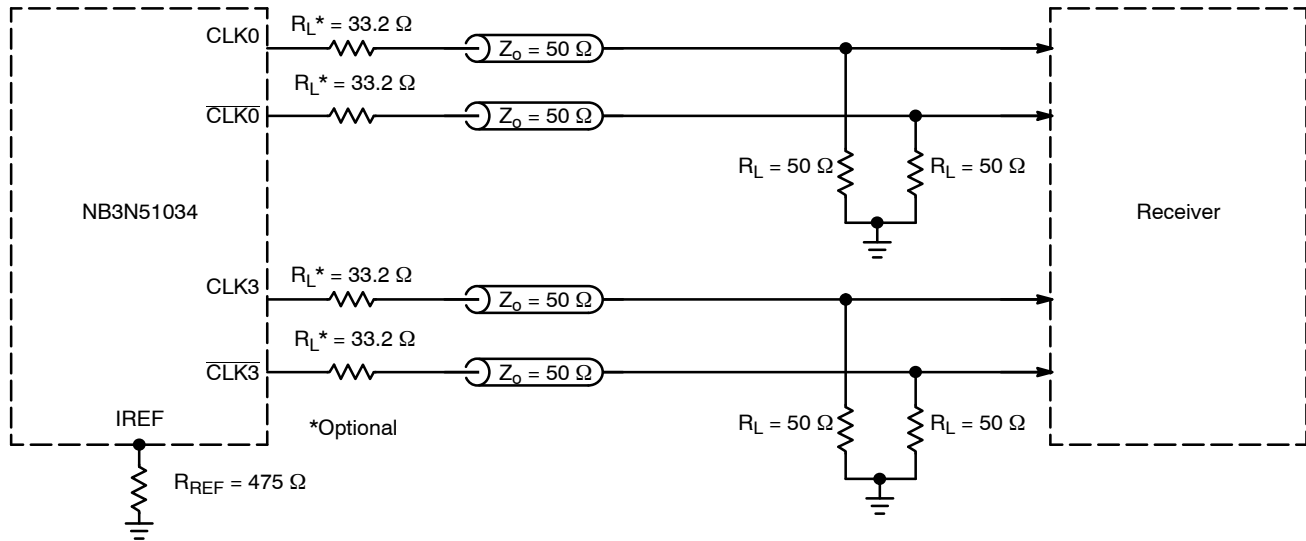
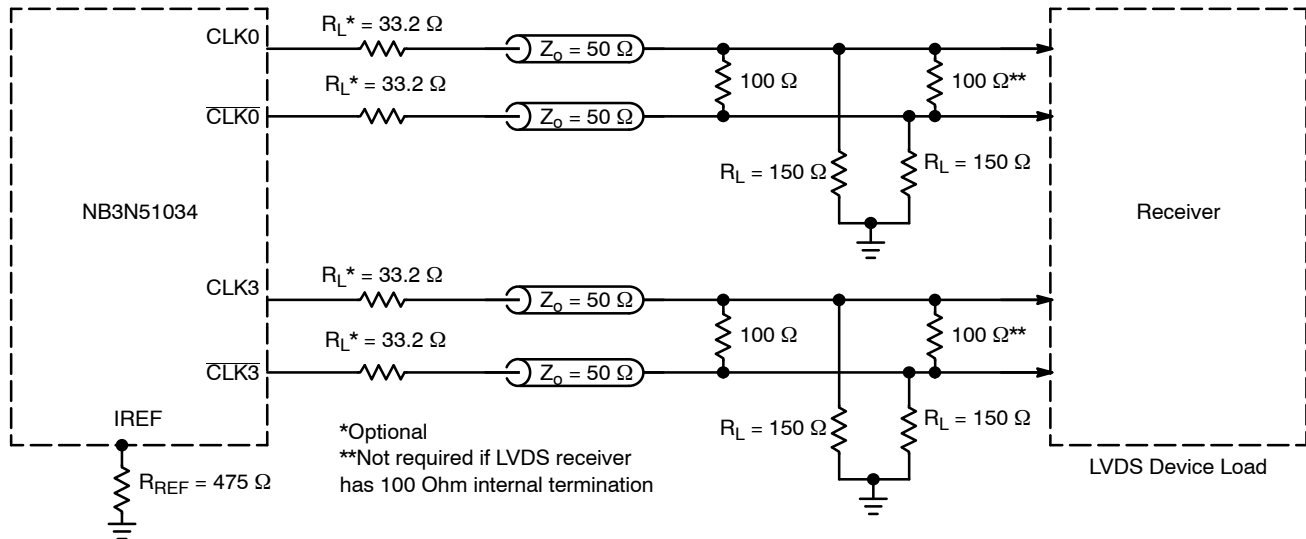

Figure 7. Typical Termination for HCSL Output Driver and Device Evaluation
Figure 8. Typical Termination for LVDS Device Load
- VDDXD and VDDODA power pins must be shorted to power supply voltage V_{DD} and GNDXD and GNDODA ground pins must be shorted to power supply ground GND. Measurement taken with outputs terminated with R_S = 33.2 Ω, R_L = 50 Ω, with test load capacitance of 2 pF and current biasing resistor set at 475 Ω. See Figure 7. Guaranteed by characterization.
12. VDDXD and VDDODA power pins must be shorted to power supply voltage V_{DD} and GNDXD and GNDODA ground pins must be shorted to power supply ground GND. Measurement taken from differential output on single-ended channel terminated with $R_S = 33.2 \Omega$, $R_L = 50 \Omega$, with test load capacitance of 2 pF and current biasing resistor set at 475 Ω . See Figure 7. Guaranteed by characterization.
19. VDDXD and VDDODA power pins must be shorted to power supply voltage V_{DD} and GNDXD and GNDODA ground pins must be shorted to power supply ground GND. Measurement taken from differential output on single-ended channel terminated with $R_S = 33.2\ \Omega$, $R_L = 50\ \Omega$, with test load capacitance of 2 pF and current biasing resistor set at 475 Ω . See Figure 7. This parameter is guaranteed by characterization. Not tested in production.
The outputs can be terminated to drive HCSL receiver (see Figure 7) or LVDS receiver (see Figure 8). HCSL output interface requires $49.9\ \Omega$ termination resistors to GND for generating the output levels. LVDS output interface may not